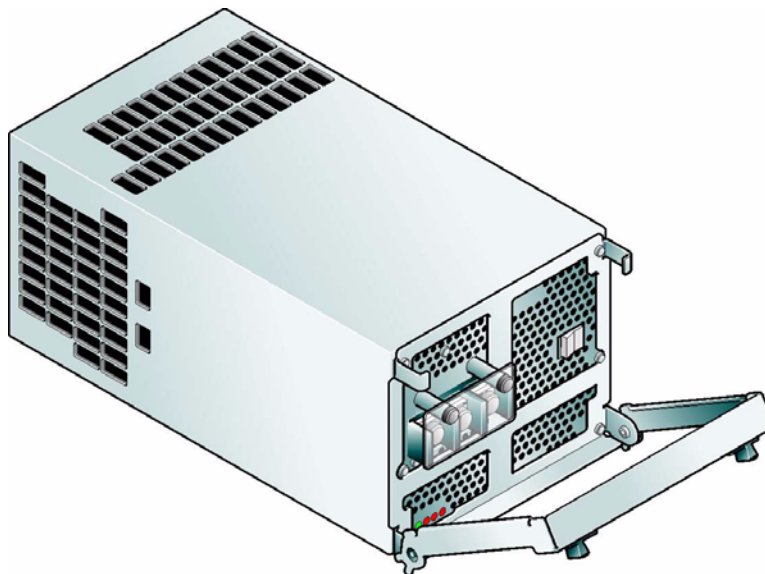

Figure 2-7 I-48V Power Supply/Cooling Module - Handle in Open Position
- 2 With the PSU handle (Figure 2-7) in the open position, slide the module into the enclosure.